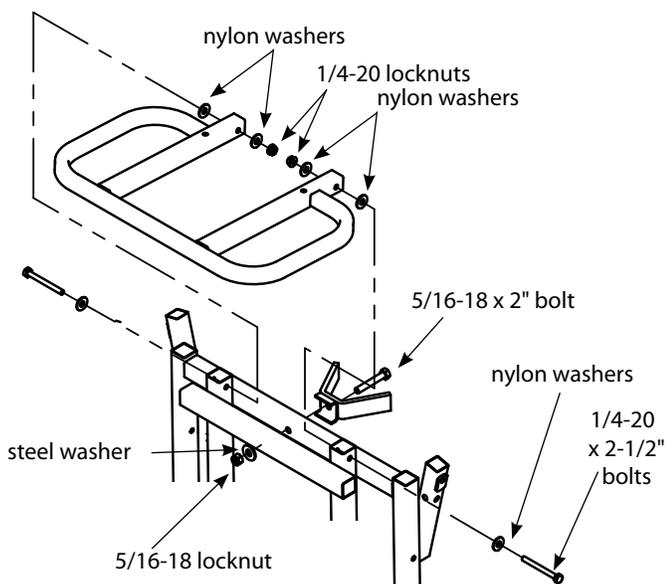

Figure 1
1. Bolt the metal seat frame (C30) onto the seat post (CXR25) using the (2) provided 1/4-20 x 2-1/2" bolts, locknuts and (6) nylon washers. **SEE FIGURE 1. DO NOT tighten all nut & bolt assemblies completely!**
2. Attach the tree hugger to the seat post using (1) provided 5/16-18 x 2" bolt, locknut and steel washer. **SEE FIGURE 1.**